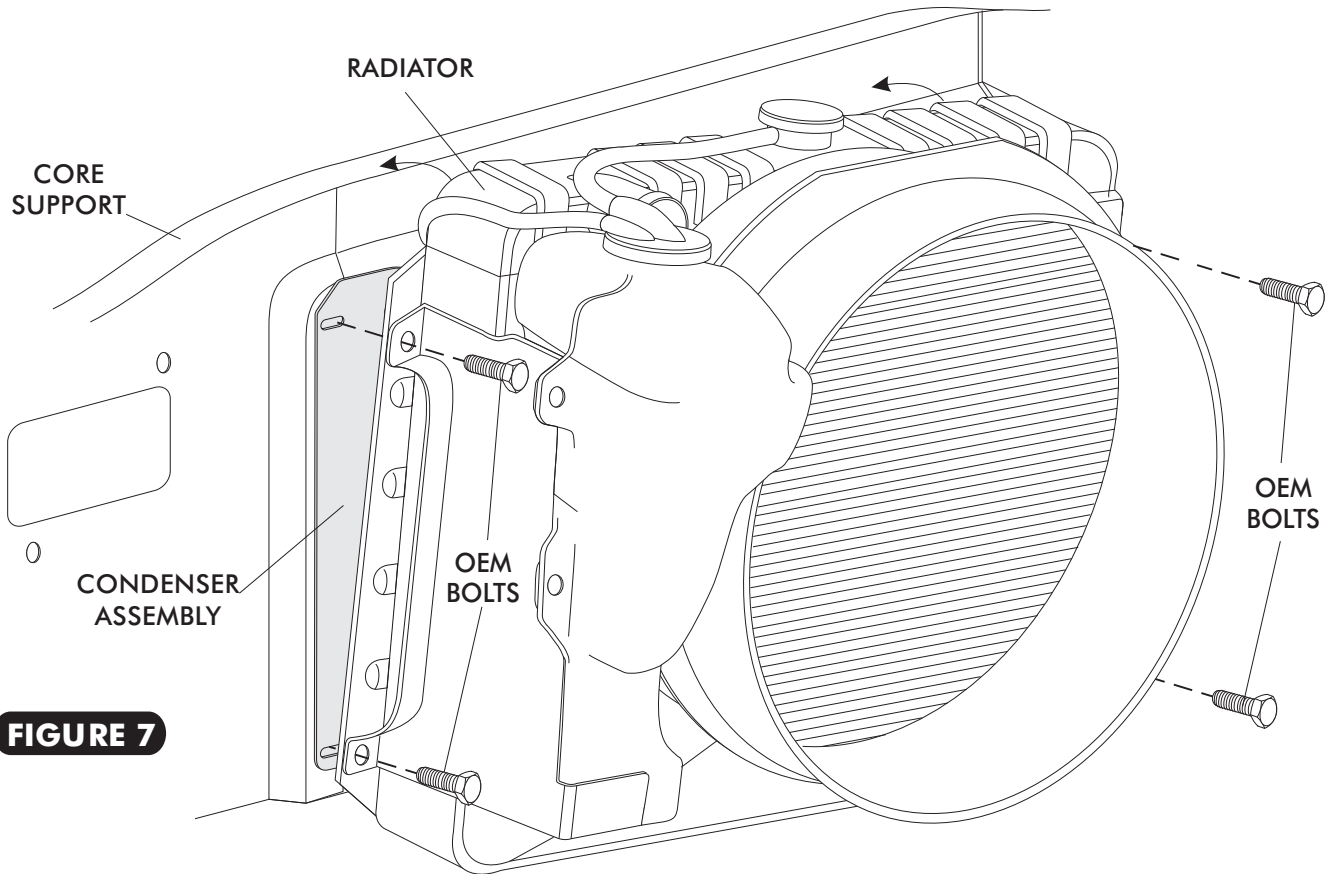

FIGURE 7
- USING THE OEM HARDWARE SECURE THE CONDENSER ASSEMBLY BETWEEN THE RADIATOR AND THE CORE SUPPORT SEE FIGURE 7 BELOW